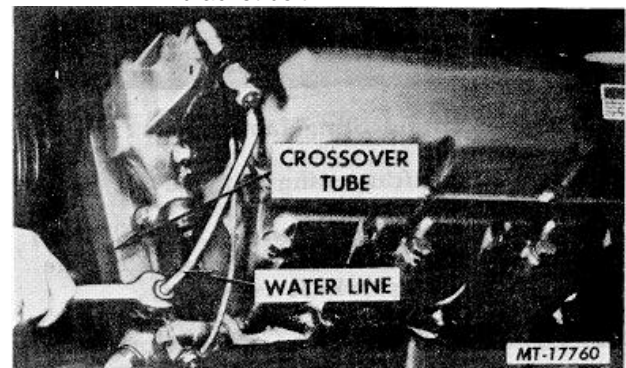

Fig. 11 Removing Air Compressor Water Line
- d. Remove air compressor water line (Figure 11). Also remove water line clip from power steering pump mounting bracket bolt.